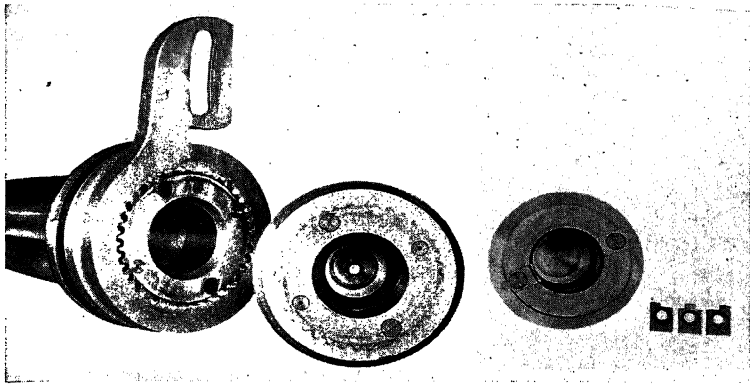

FIG. 15.—Assembling counterweight brackets on their proper blades.
9. Assemble the counterweight brackets on their correspondingly numbered blades (Fig. 15). Be sure that *four* index pins are used for each blade.
Both types are illustrated in Fig. 15. The *E* shank blade is shown with its counterweight bracket indexed to a base setting of 23 deg. The semicircle holes in the bracket are numbered and the holes in the blade bushing have corresponding numbers. *These numbers mean blade angle at 42 in. radius.* To index, move the bracket around on the butt of the blade until the desired numbers coincide, insert an index pin here and additional pins at the three other points (90 deg. apart), where the holes coincide.